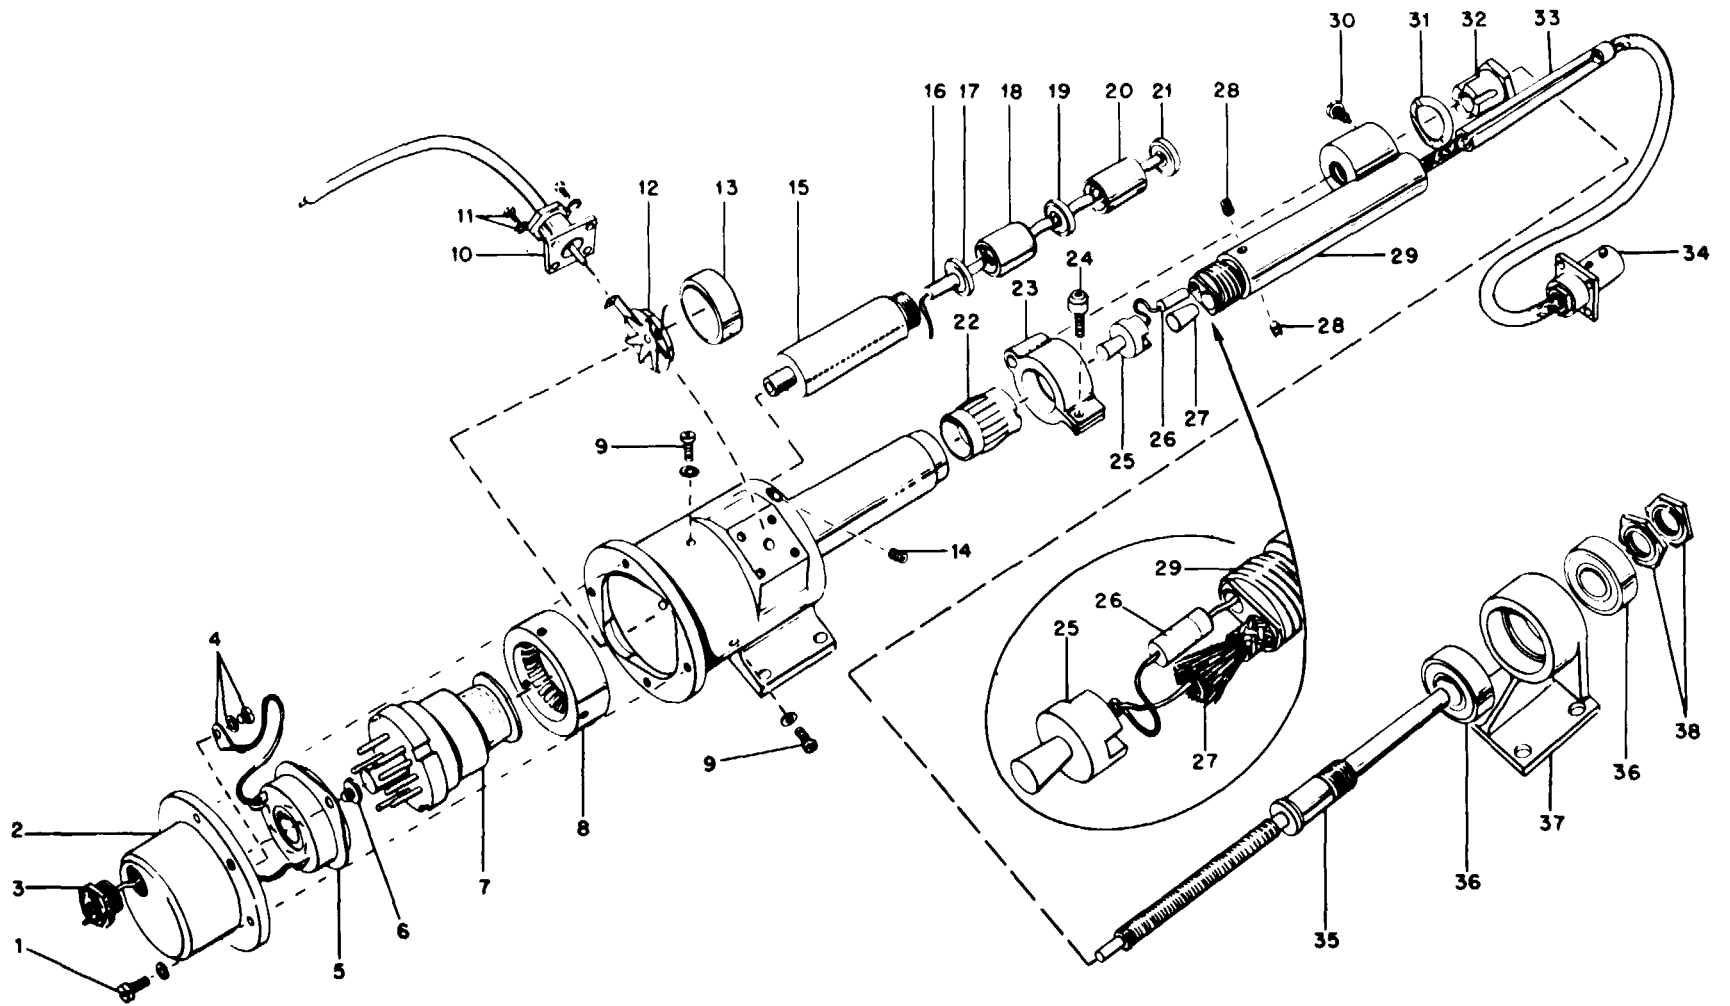

Figure 5-6. ALC/Attenuator Assembly 8A2, Exploded View
(b) **DISASSEMBLY.** - To disassemble ALC/Attenuator Assembly (figure 5-6), proceed as follows :
- Step 1. Remove four screws and washers (item 11) and remove housing cap and socket assembly (item 2) by pulling it off the tube.
- Step 2. If required, remove two tube socket mounting screws (item 6). This makes accessible tube socket (item 5), capacitor 8C1 (item 3), and grounding wire with lug (item 4).
- Step 3. Remove tube 8V1 (item 7) by gently rocking and pulling.
- Step 4. Remove three screws with washers (item 9) and remove contact ring (item 8) by sliding it out.
- Step 5. Unsolder from contact plate (item 12) center wire of signal input cable assembly (item 10) and lead of resistor 8R1 (item 16).
- Step 6. Remove four screws and washers (item 11) and remove input cable assembly (item 10).
- Step 7. Loosen setscrew (item 14) and remove filter assembly 8Z2 (item 15). This makes accessible resistor 8R1 (item 16), capacitors 8C2, 8C3, and 8C4 (items 17, 19, and 21), and spacers containing coils 8L1 and 8L2 (items 18 and 20).
- Step 8. Loosen setscrew (item 24) and remove plunger assembly (item 29) from the cavity by pulling it out with all the parts attached to it, including lead screw clamp (item 23).
- Step 9. If required, remove contact plate (item 12) by pushing it out with a suitable round tool through plunger cavity. Insulating spacer (item 13) can be removed by carefully pulling it off its mounting lip.
- Step 10. Remove sliding contact (item 22) and lead screw clamp (item 23) from plunger by unscrewing.
- Step 11. To gain access to resistor 8R2 (item 26) or coaxial cable connection to cavity coupling contact (item 25), loosen setscrew (item 28). Apply the tip of a hot soldering iron to edge of the cutout near the end of the plunger opposite resistor 8R2 (item 26), and push coaxial cable through plunger and sleeve (item 33) forward as shown on enlarged sectional view of figure 5-6. Remove resistor 8R2 by heating tip of contact (item 25) and unsoldering outer conductor of coaxial cable. After removing conical retainer
(c) **REASSEMBLY AND MOUNTING TO BASE PLATE.** - To reassemble and mount the ALC/attenuator assembly, proceed as follows (figure 5-6):
- Step 1. Install ball bearings (item 36) into mounting bracket (item 37). Insert tuning shaft (item 35) and tighten one locknut (item 38) until the shaft has no end-play and can be turned with no more than 5 inch-ounces of torque. Carefully tighten second locknut and recheck end-play and torque.
- Step 2. Thread backlash nut (item 32) on lead screw full length of thread to make certain there are no tight spots.
- Step 3. Reassemble plunger assembly (item 29) by inserting resistor 8R2 (item 26) into hole provided for it and soldering the resistor lead protruding into cutout on plunger. Slide sleeve (item 33) onto coaxial cable from SC OUT connector (item 34) and pull cable through plunger (item 29). Strip the dielectric and braiding back 5/8 inch from end of cable, exposing center conductor. Strip off an additional 3/8 inch of outside insulation and comb out braid. Insert conical retainer (item 27) under combed portion of braid. Insert conical retainer until combed portion of braid is flush with dielectric, pull coaxial cable back in until flush with end of plunger and trim off any protruding braid. Tighten setscrew (item 28). Slip lead screw clamp (item 23) onto plunger. Bend the offset center conductor of coaxial cable as indicated in enlarged cutout in figure 5-6. Form resistor lead into pickup loop around coaxial conductor as shown and solder both together. Feed coaxial cable center conductor through contact (item 25), thread on sliding contact (item 22), and solder flush with top of contact. Remove sliding contact (item 22), apply Glyptol to threads on plunger and replace contact, threading on finger-tight.
- Step 4. Install insulator ring (item 13)